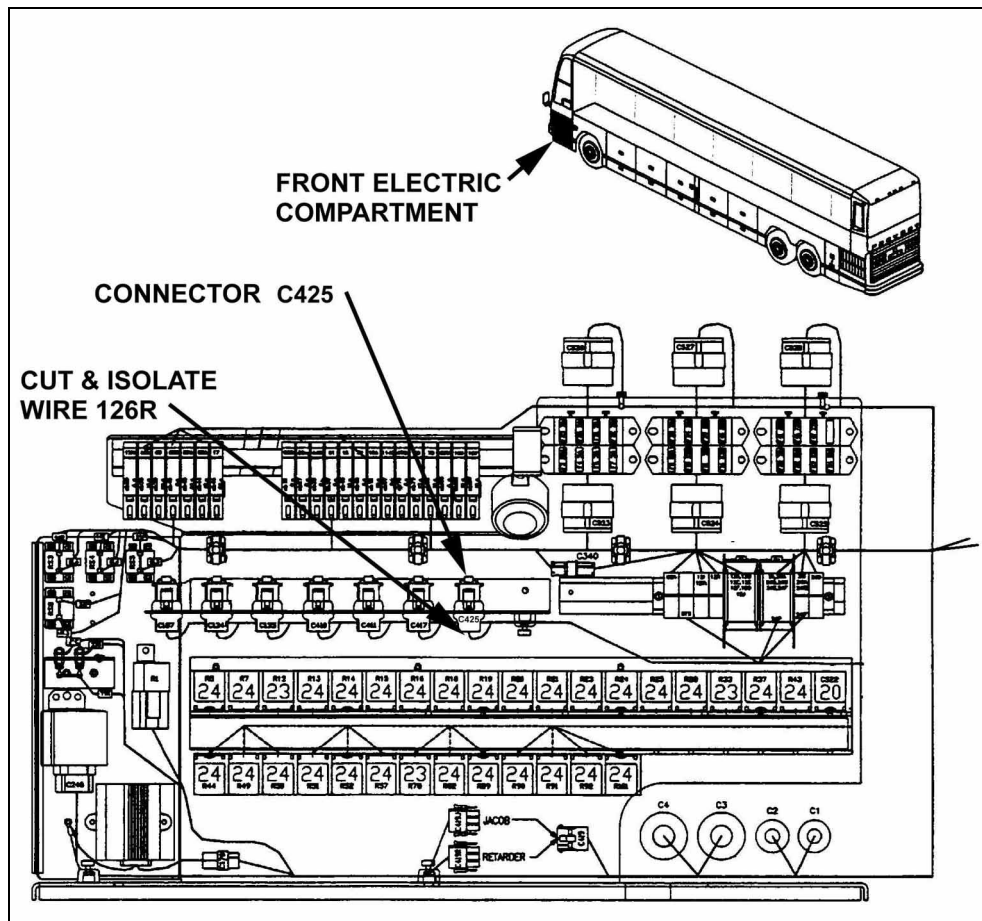

FIGURE 1 : INTERIOR VIEW OF THE FRONT ELECTRIC & SERVICE COMPARTMENT.
1. Open the front electric & service compartment door (figure 1).